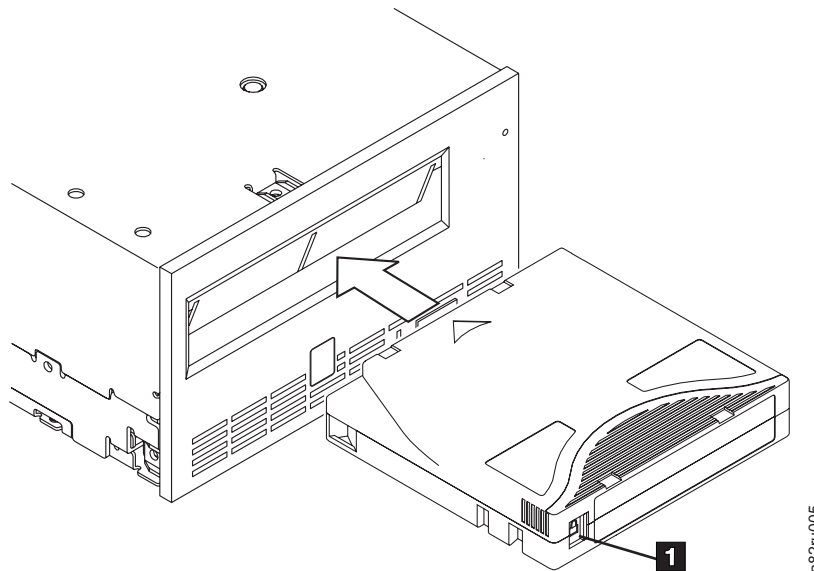

Figure D-2. Inserting a cartridge into the drive
3. Grasp the cartridge so that the write-protect switch faces you (see 1 in Figure D-2).